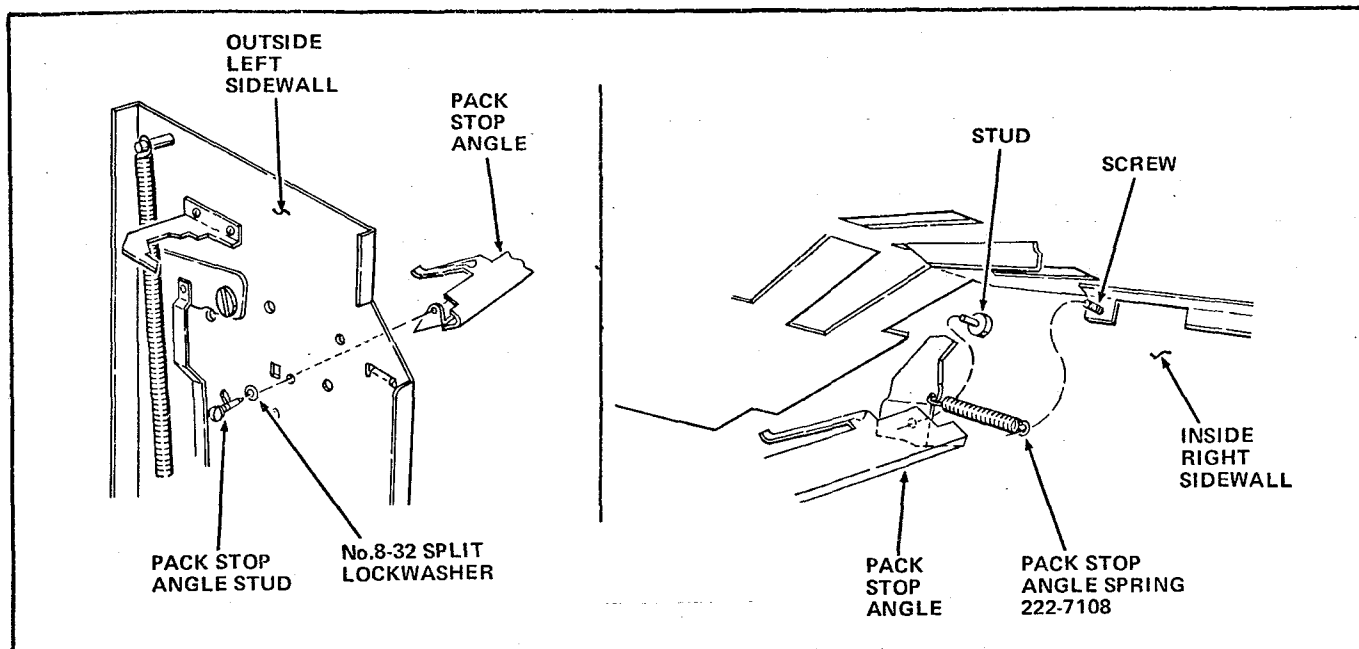

FIGURE 2
8. Remove the Pack Stop Angle Stud, No.8-32 Split Lockwasher and the Pack Stop Angle and Pack Stop Angle Spring from the Delivery Mechanism. See Figure 2.
9. Remove the Pack Stop Angle Spring from the Pack Stop Angle. See Figure 2.
2. Attach one end of the replacement Pack Stop Angle Spring, Part Number 222-7108, included in the Kit, to the spring hole in the end of the Pack Stop Angle removed in Step A-7. See Figure 2.
3. Install the Pack Stop Angle and Pack Stop Angle Spring in the Delivery Mechanism by fitting the small stud on the inside Right Sidewall in the hole in the end of the Pack Stop Angle. Place the other end of the Pack Stop Angle against the Left Sidewall and attach with the Pack Stop Angle Stud and No.8-32 Split Lockwasher removed in Step A-7. See Figure 2.
4. Fit the loose end of the Pack Stop Angle Spring on the Screw coming through the Right Sidewall. See Figure 2.